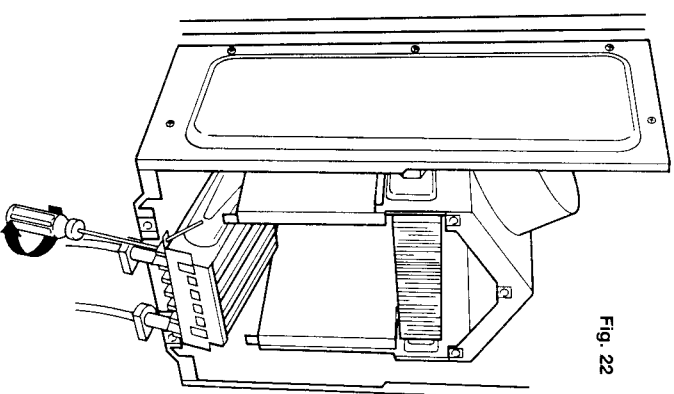

Fig. 22
8.6.5 Release electrode retaining screws and carefully remove electrodes (fig 22).